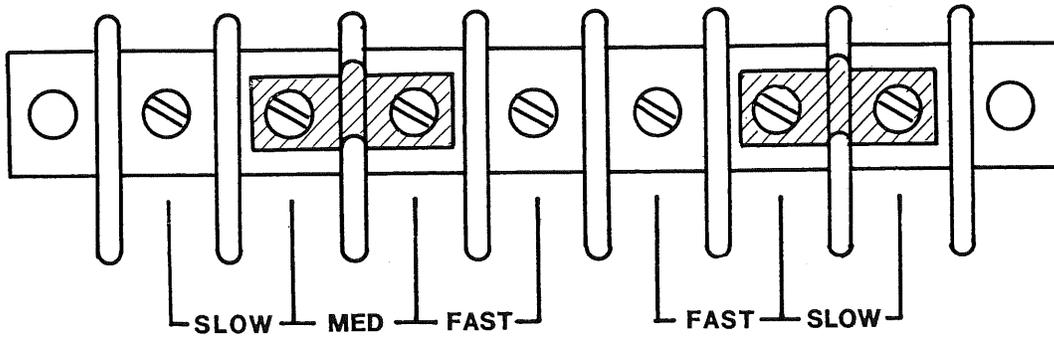

Figure 4-1 - Typical Stability Link Connection
4.3.3 Stability Selection Links (TS2) (Refer to Figure 4-1)